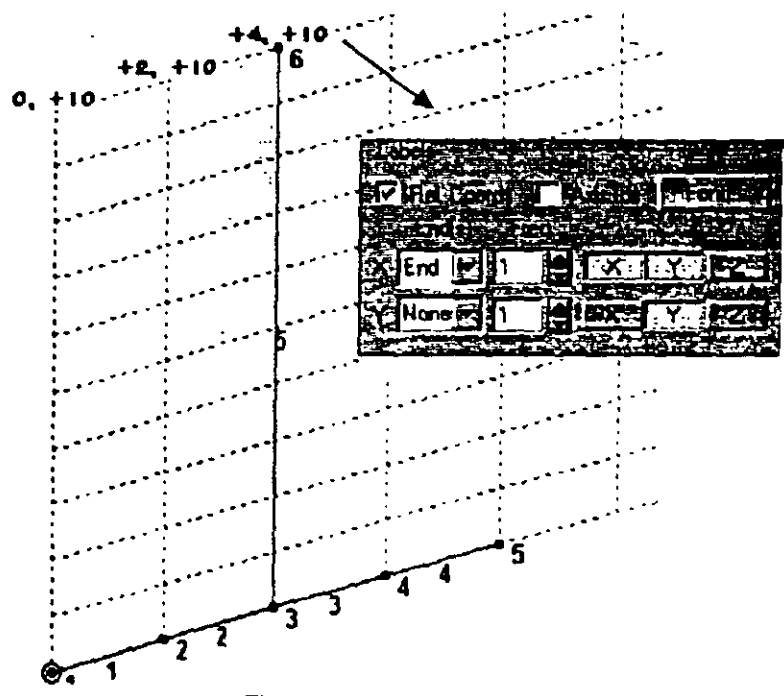

Figure 3.19
2. Then, click at node 3. Click again at the point (4, 10). We will see that member 5 has been created as shown in Figure 3.19. In this example, the roaming grid labels were turned on from Snap Node/Beam dialog box so the point (4, 10) can be readily identified.